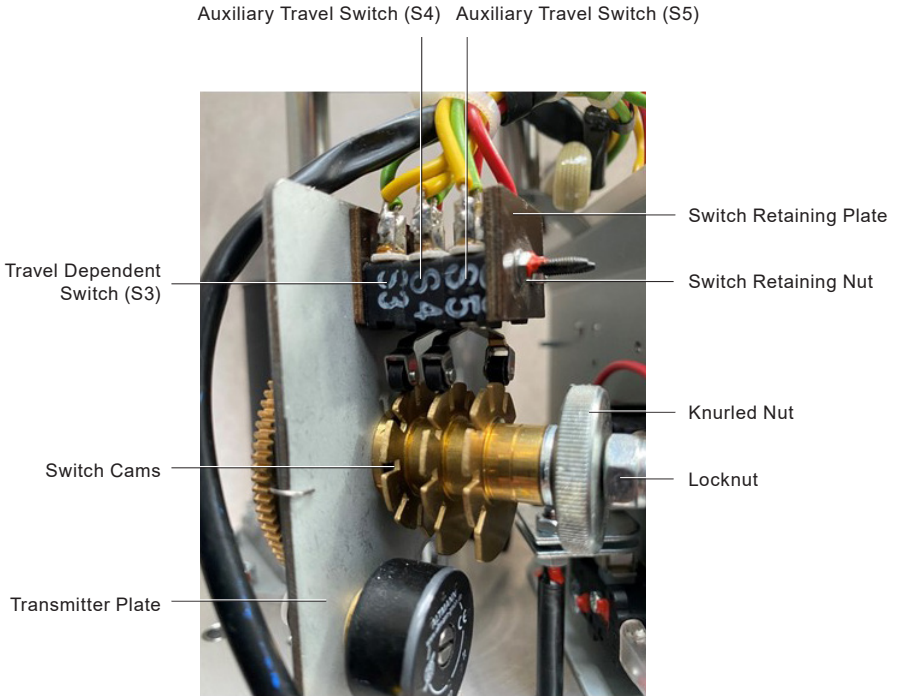

Fig. 10 Auxiliary Travel Switch (WE) Arrangement (8 kN+ [1,798 lbf+])
- Refer to Figure 10 for product orientation